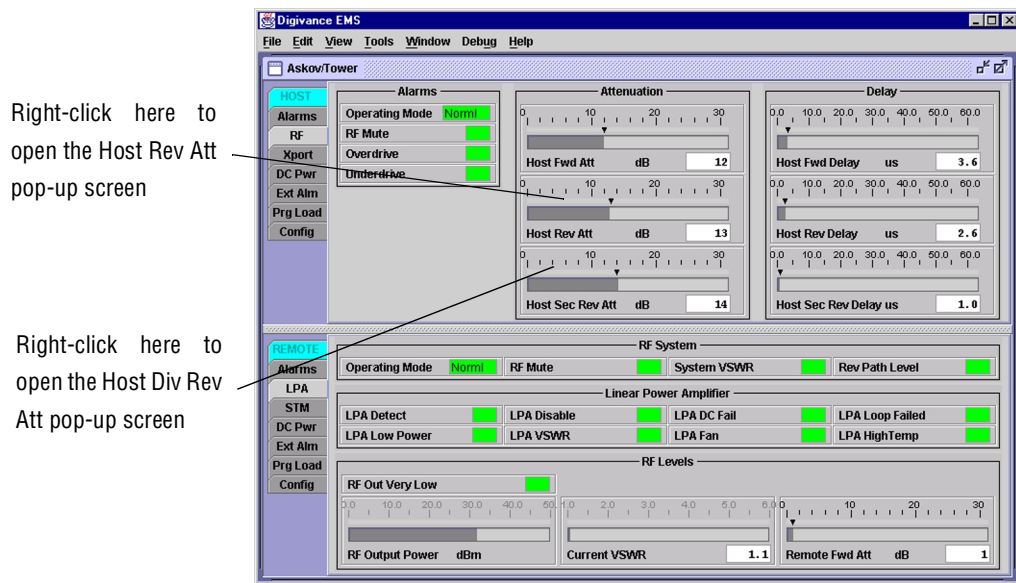
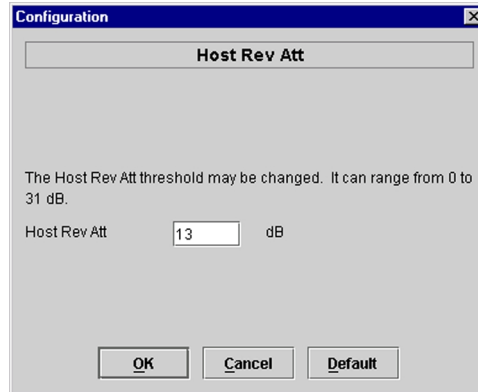

Figure 4-12. HOST RF Display
Figure 4-13. Host Rev Att Pop-Up Screen
- Right-click on the **Host Rev Att** section of the display (see Figure 4-12). The **Host Rev Att** pop-up screen will open as shown in Figure 4-13.
- Repeat the process for the diversity reverse path by right-clicking on the **Host Div Rev Att** section (see Figure 4-12) and then entering the required attenuation value in the **Host Div Rev Att** pop-up screen.